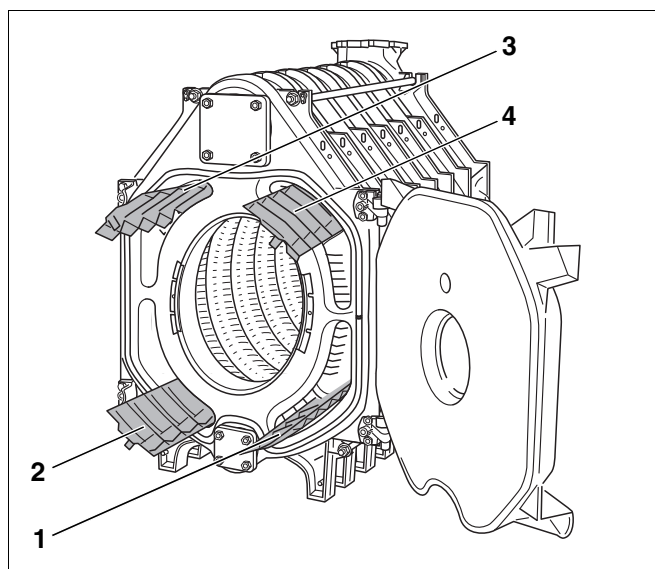

Fig. 34 Hot gas baffle plates
- Take hot gas baffles from the fittings case and insert into the hot gas flue according to the inscription on them (→ Fig. 34 and table below).